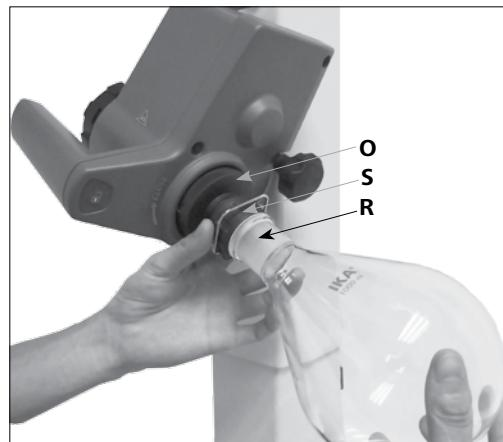

Fig.15a
- Place the evaporation flask on the Vapour tube (**R**). (Fig.15a)